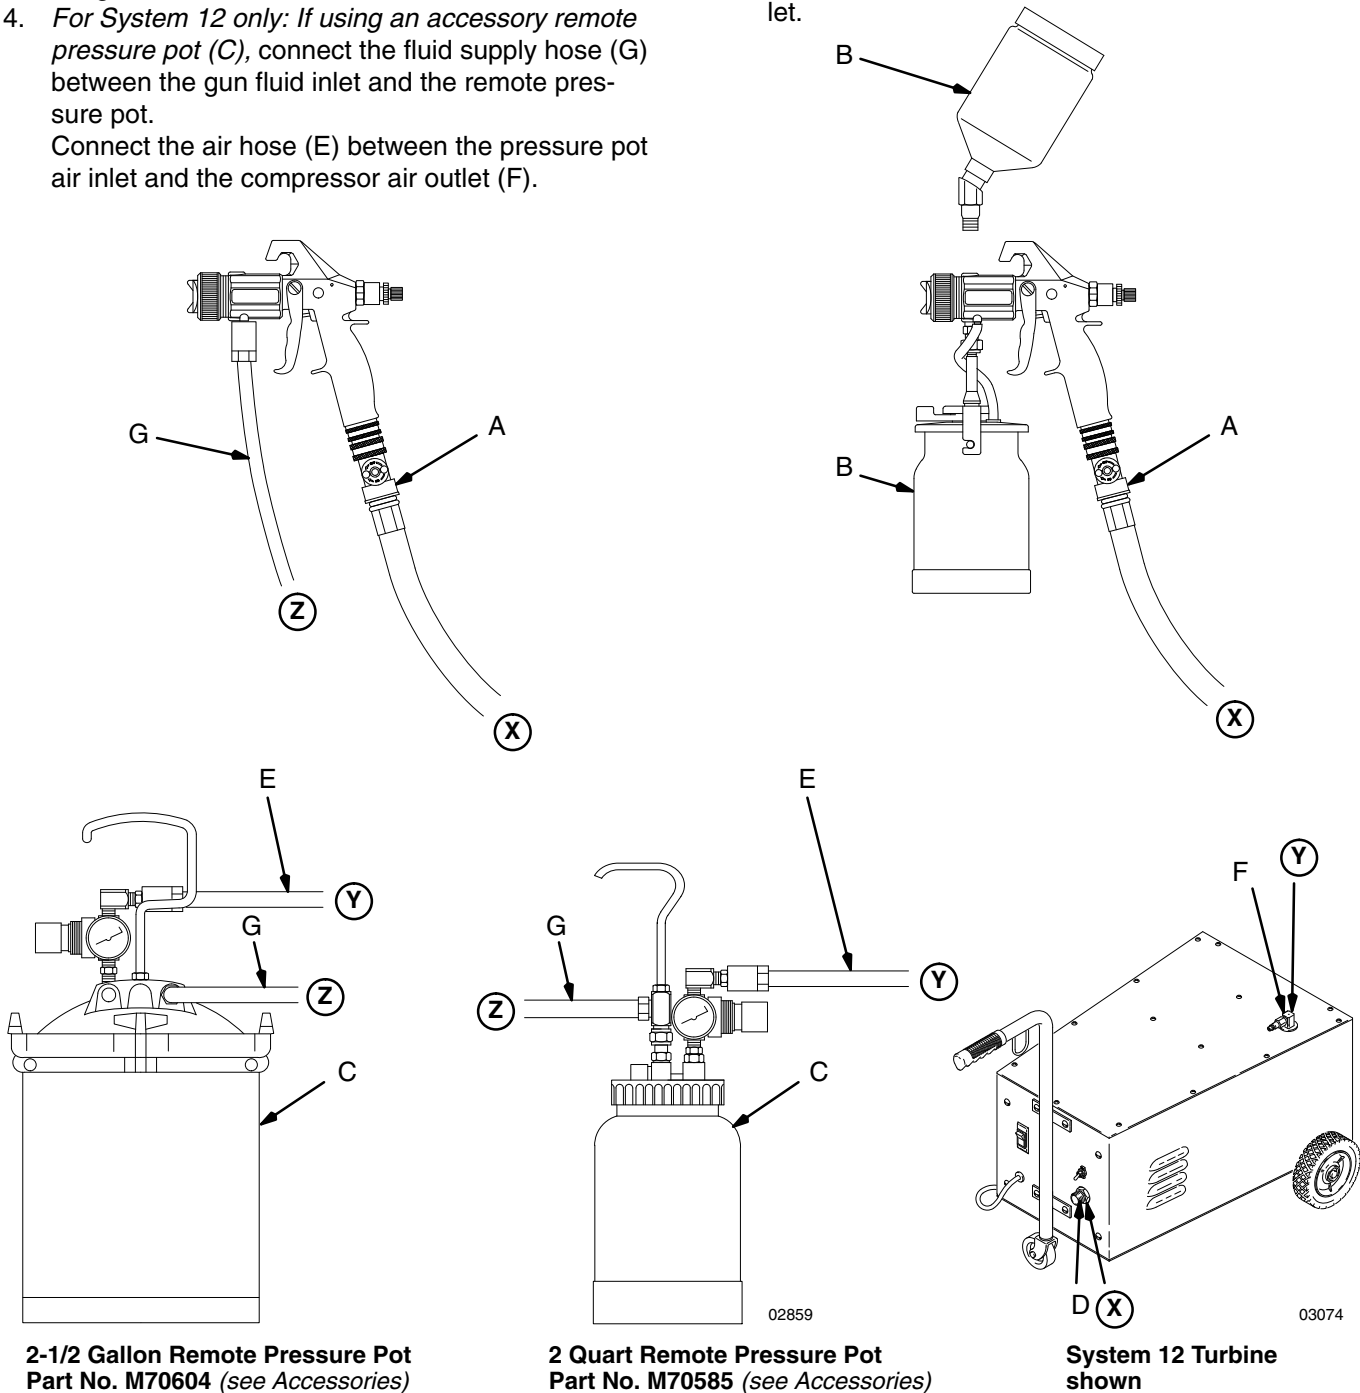

Fig. 1
2. Connect the gun air supply hose (A) between the turbine air outlet (D) and the gun air inlet. See Fig. 1.
3. *If using a spray gun cup (B), connect the cup to the gun fluid inlet.*
4. *For System 12 only: If using an accessory remote pressure pot (C), connect the fluid supply hose (G) between the gun fluid inlet and the remote pressure pot.*
- The circled letters in Fig. 1 indicate hose line connections.